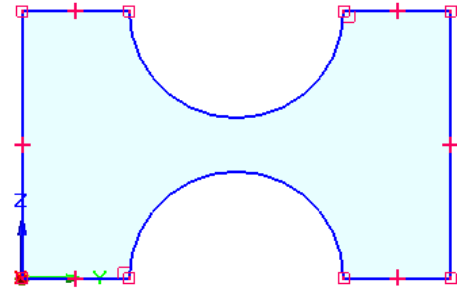

Figure 2-52 Final profile for Tutorial 2
19. Click to define the endpoint of this line when the endpoint relationship handle is displayed. The final profile of the model is shown in Figure 2-52.